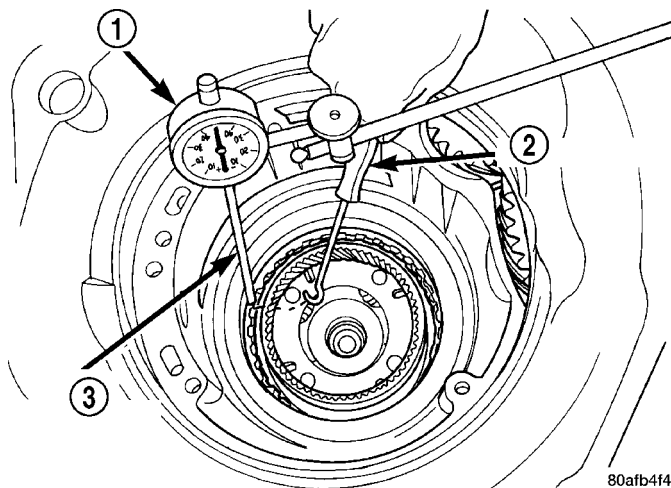

Fig. 134 Check 2/4 Clutch Clearance
(47) Install snap ring.
(48) Set up dial indicator as shown in (Fig. 134) and measure 2/4 clutch clearance. Press down on clutch pack with finger and zero dial indicator. **2/4 clutch pack clearance is 0.76-2.64 mm (0.030-0.104 in.).** Set up indicator and record measurement in four (4) places. Take average of readings. If clearance is outside this range, the clutch is assembled improperly. **There is no adjustment for 2/4 clutch clearance.**